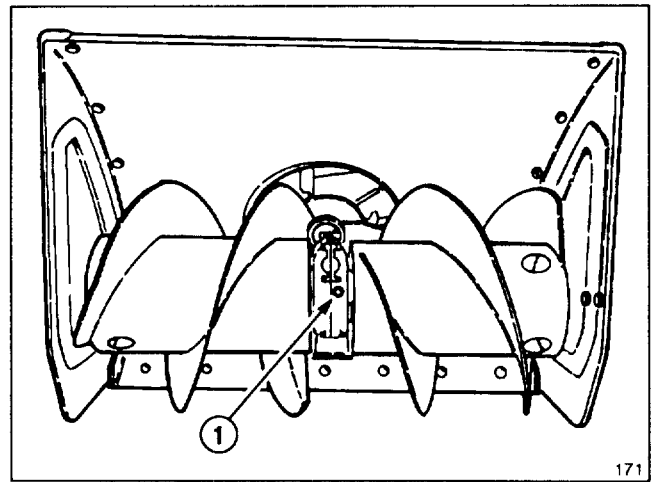

Figure 27
## AUGER GEAR BOX OIL (Fig. 27)
3. Remove pipe plug from gear box (Fig. 27).